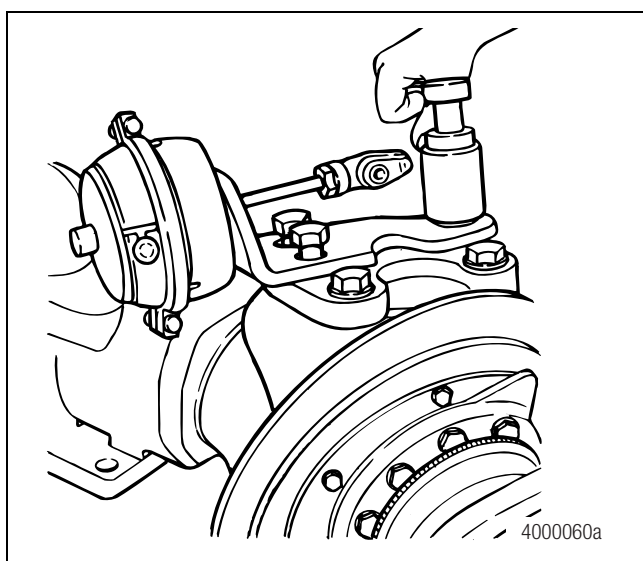

Figure 6.19
1. Install the air brake chamber and bracket. Tighten the bracket mounting capscrews to 500-650 lb-ft (678-881 N•m). Figure 6.19. **ⓘ**